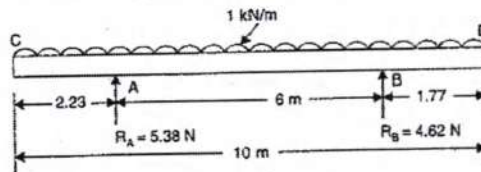

Figure 1
1. Draw the shear force and bending moment diagram of the beam shown in the figure 1. [10]